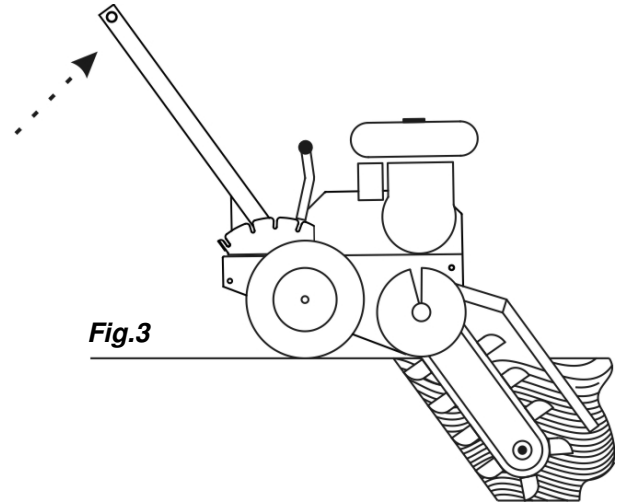

Fig.3
3. Apply downward pressure to the handlebar so the digging chain is not in contact with the ground. Increase the engine speed and hold on to the handlebar with both hands. Slowly relieve the downward pressure on the handlebar allowing the digging chain to penetrate the soil until the chosen depth is reached. **Fig. 3**